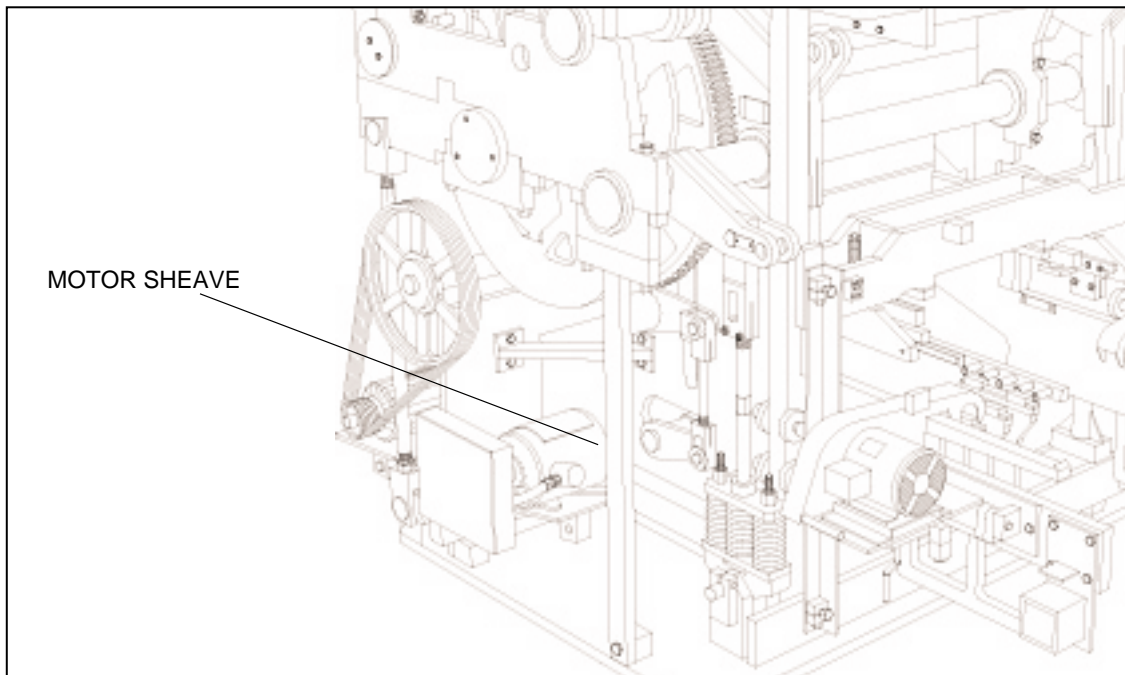

Figure 18.35 MOTOR SHEAVE.
18.2.11 This adjustment procedure uses gravity to strip the units from the mold. With some product it may be necessary to reduce the size of the sheave on the drive motor by approximately 15% to prevent the machine from overrunning the strip (see figure 18.35).